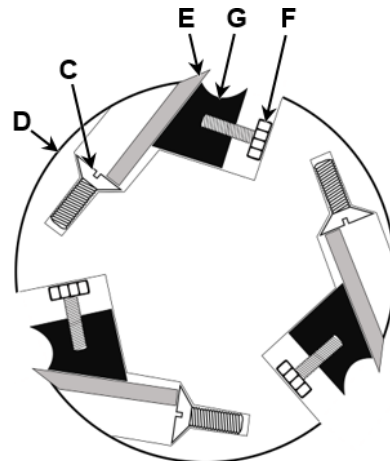
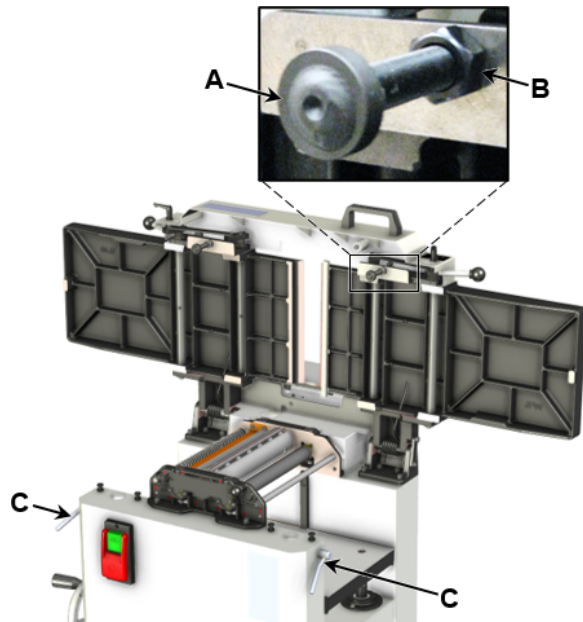

Figure 17 – Straight Knife Cutterhead (Model JPJ-12B Only)
Figure 19
Note: One cam at the back of each table is obscured by the jointer fence assembly. The cams can be accessed by removing the fence assembly, which can be done after removing four *button head socket screws* (B, Fig. 17) with a 5mm hex wrench.
3. Remove the *fence assembly* (A, Fig. 17) and *upper back panel* (C, Fig. 17) to access the *cutterhead pulley* (O, Fig. 19).
⚠ CAUTION Always rotate the *cutterhead* (D) via the *cutterhead pulley* (O, Fig. 19). Do not contact the cutterhead itself to rotate it.
5. Rotate the *cutterhead* (D) until one of the blades is at its highest point in its cutting arc.
20. After all knife adjustments are completed, the *upper back panel* (C, Fig. 17) and the *fence assembly* (A, Fig. 17) should be placed back on the machine before operating.
Refer to Figure 19:
Note: The front ends of the rollers can be accessed when the jointer table is raised and the machine is in the planer orientation (see sect. 9.1, *Jointer to Planer Setup*). The back ends of the rollers can be accessed by taking off the *jointer fence assembly (A, Fig. 17)* with a 5mm hex wrench and the *upper back panel (C, Fig. 17)* with a 4mm hex wrench.
Note: Replace *upper back panel (C, Fig. 17)* and *jointer fence assembly (A, Fig. 17)* if they were removed to access the back ends of the rollers.